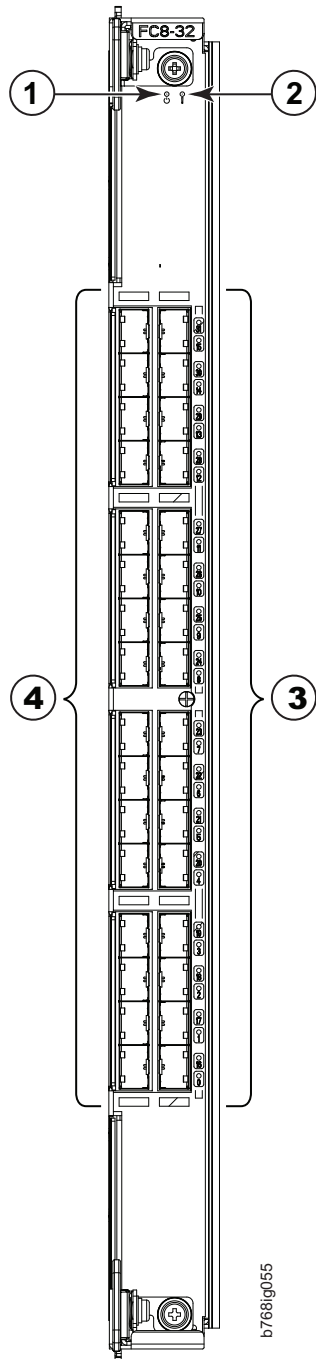

Figure 55. FC8-32 port blade
- Figure 55 on page 167 shows an FC8-32 port blade